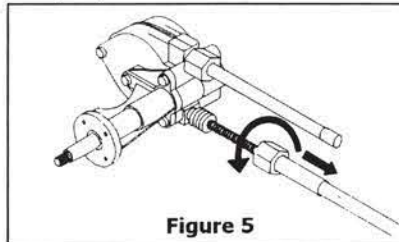

Figure 5
STEP 1. Disconnect the cable body from helm by turning the cable-retaining nut counterclockwise until free (See Figure 5)